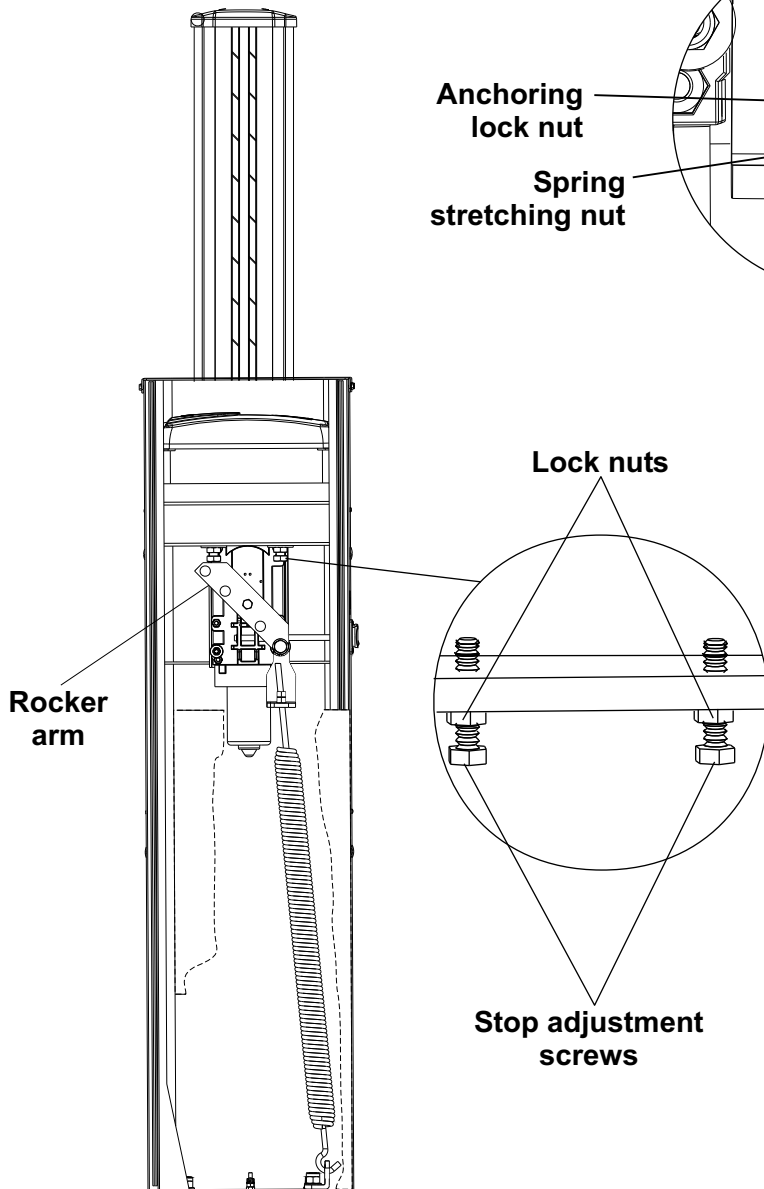

Fig.9
- Release the screws of the limit switch on unscrewing the nuts on the mechanical stops (fig.9).
- Loosen or tighten the stop screws so that the beam is released in its vertical position (opening stage) (Fig. 9) and horizontal position (closing stage).